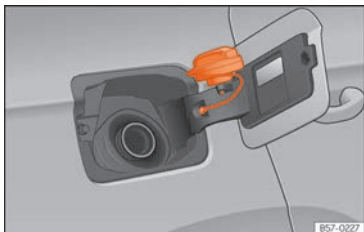

Fig. 305 Fuel tank flap with tank cap attached.
- Place it in the space on the hinge of the open flap »» Fig. 305.